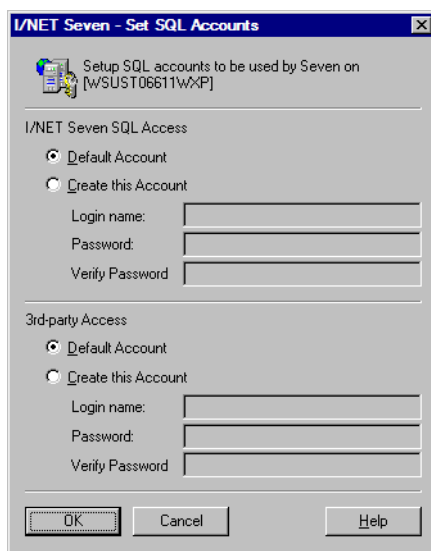

Figure 2-19. Set SQL Accounts
22. DbCreate displays an editor for setting up the accounts for the TAC I/NET Seven SQL database (see Figure 2-19).